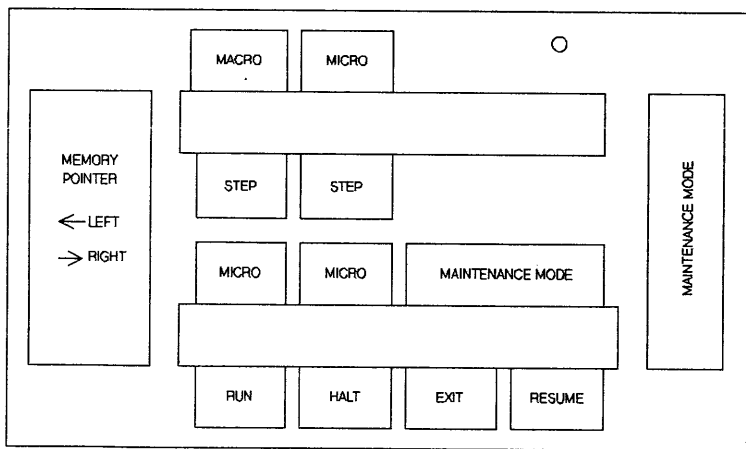

Figure 5-1. Special Keys (Series 30 and 33)
- b. Set the REMOTE key to the up position to place the console in the local mode, shown in Figure 5-1.